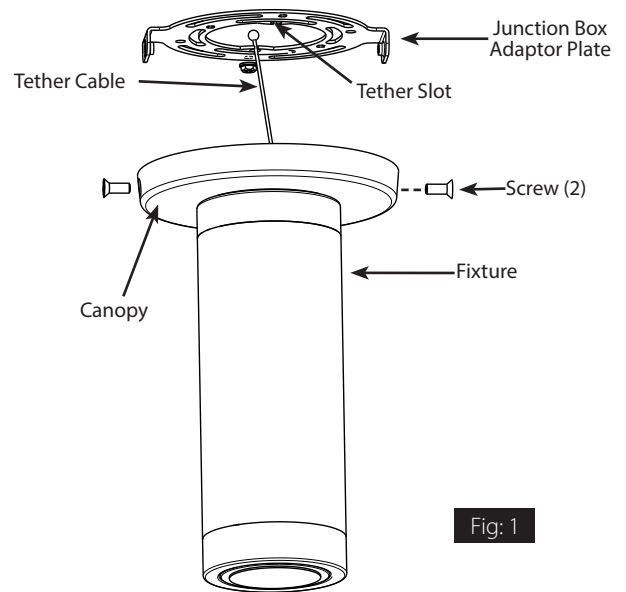

Fig: 1
1. Remove Screws (2) from the side of the Canopy as shown in Fig. 1.
4. Press Canopy to Junction Box Adaptor Plate and replace Screws (2) to secure the Fixture to the Junction Box Adaptor Plate.